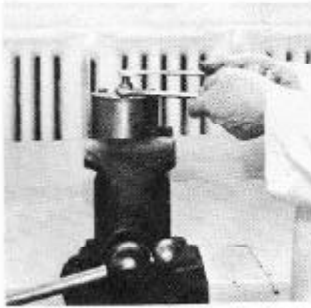

FIG. 28
- c. For all current DE-30B/20B, DE-50B and DE-70B/50B models equipped with jar pump - the adjustment screw on the pump may be open too far. This adjustment is very critical and should be turned not more than a 1/4 turn at a time (See Fig. 28). After adjusting the cap screw, tighten the jam nut and observe the hammer running for at least 30 minutes before attempting re-adjustment. Turn